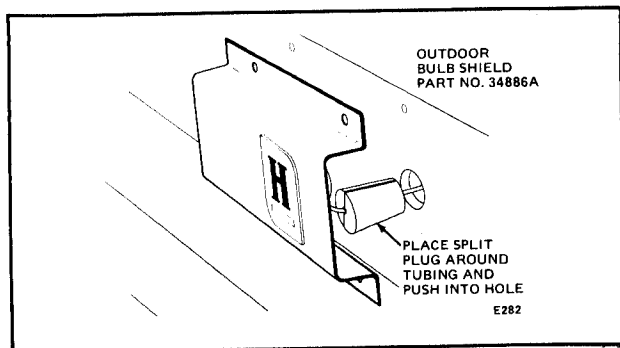

FIG. 13—MOUNTING THE OUTDOOR BULB GUARD TO WALL.
6. Place the split plug (supplied) around tubing and move guard into mounting location as a unit. Refer to Fig. 13. The split plug and hole should be covered by the guard.